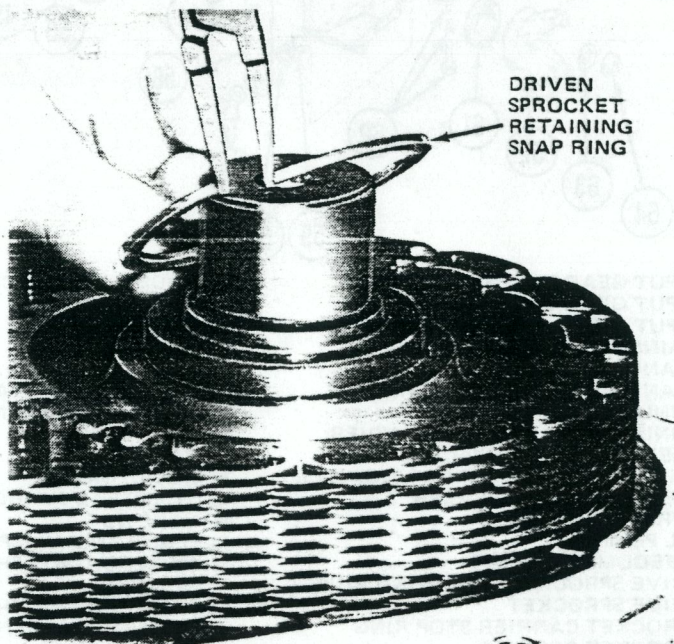

Fig. 2D-13 Driven Sprocket Retaining Snap Ring Removal/Installation
(15) Remove drive and driven sprockets and drive chain as assembly (fig. 2D-15). Lift evenly on both sprockets to remove assembly.